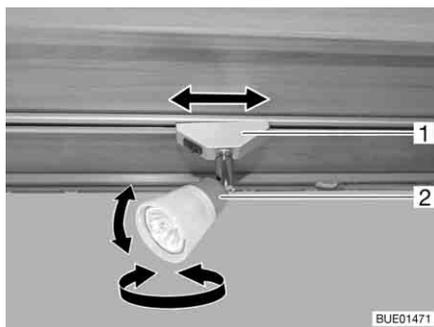

Fig. 67 Spotlight
**Rotating:** ■ Grasp the housing (Fig. 67,2) and turn it.
**Shifting:** ■ Grip holder (Fig. 67,1) and turn by approx. 45°.
- Grip holder (Fig. 67,1) and turn by approx. 90°.